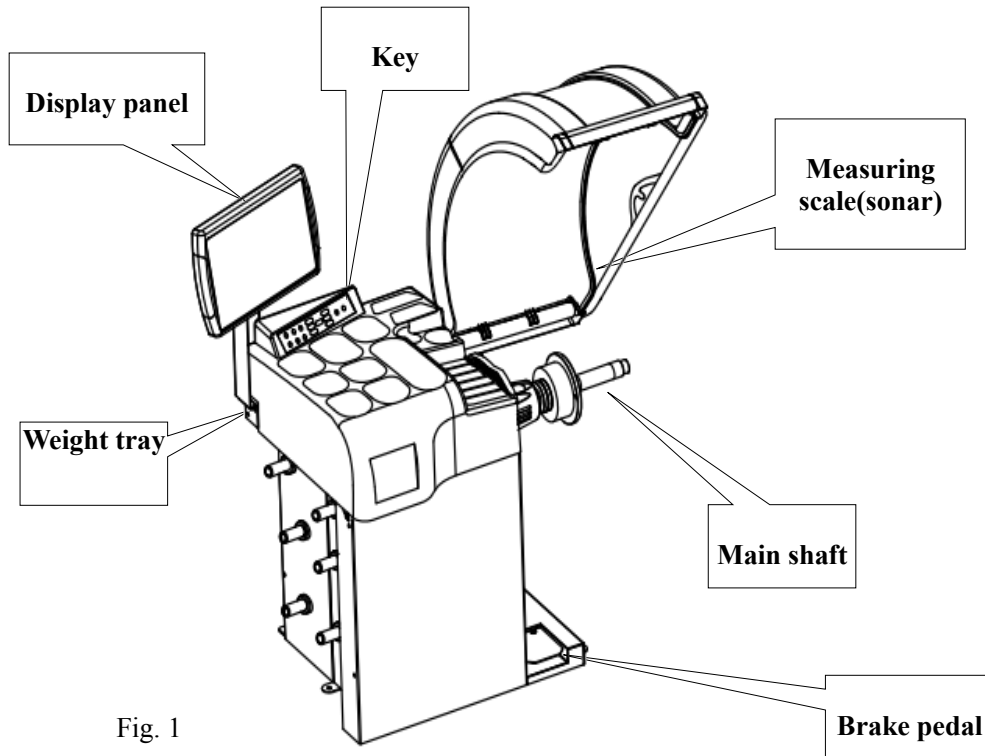

Fig. 1
3.1 Overall structure is as Fig. 1